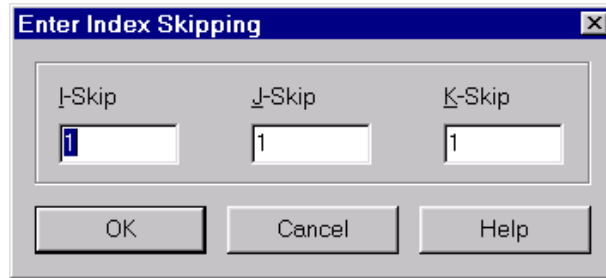

Figure 12-9. The Enter Index Skipping dialog.
4. Click on the desired option. If you click on Enter Skip, the Enter Index Skipping dialog appears, as shown in Figure 12-9 below.